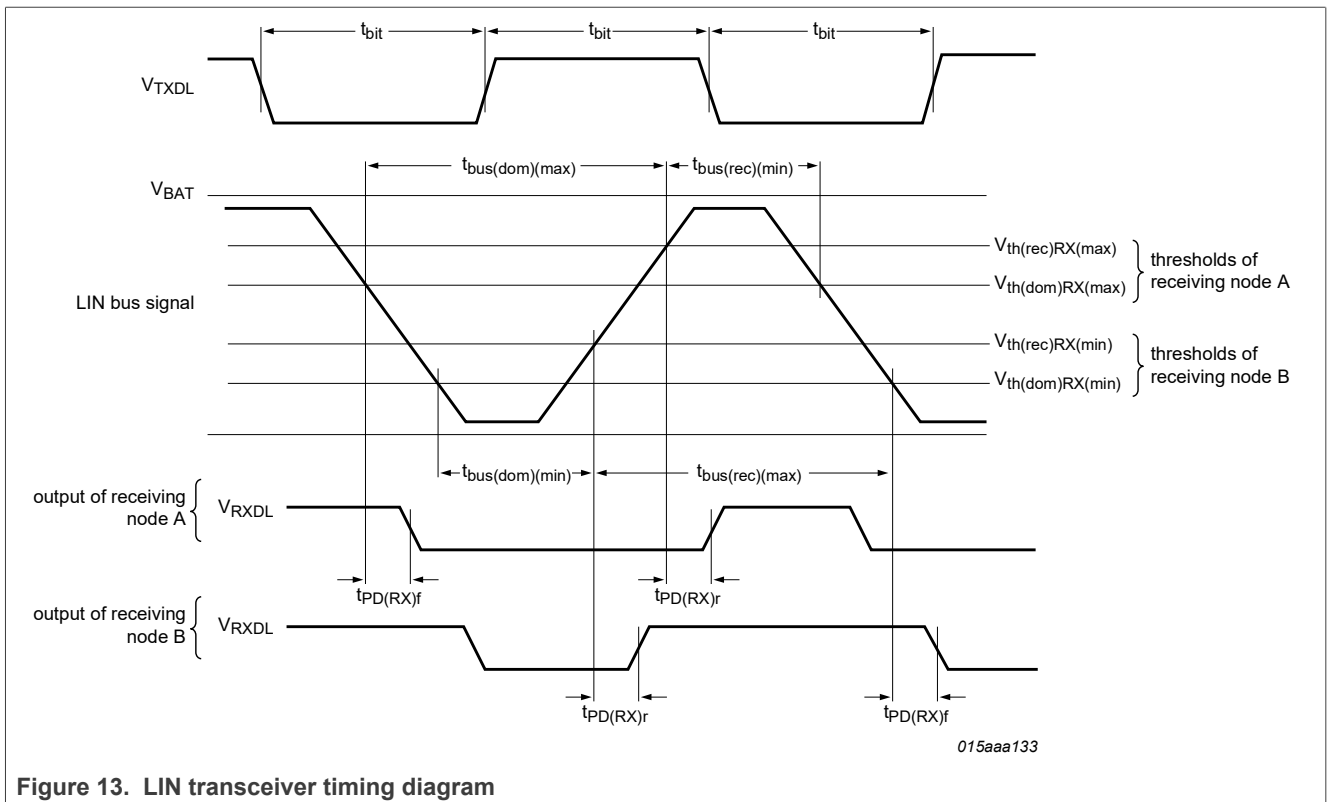
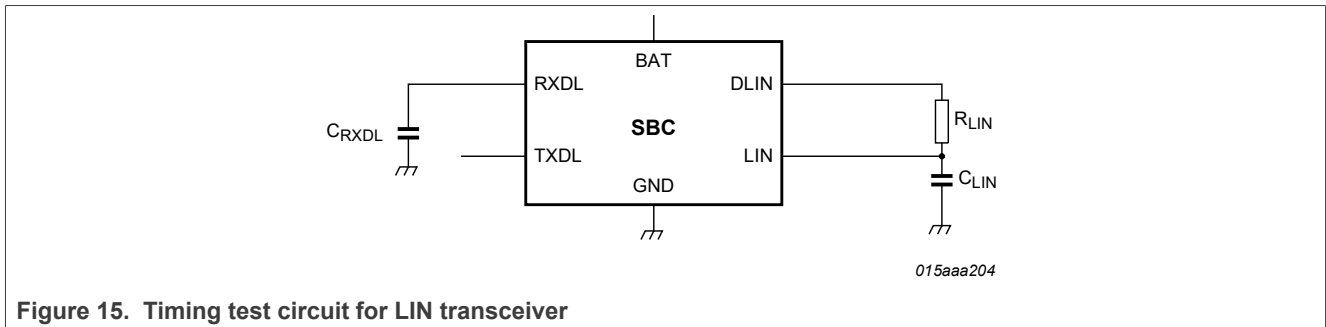

Figure 13. LIN transceiver timing diagram
Figure 15. Timing test circuit for LIN transceiver
LIN transceiver; pins LIN, TXDL, RXDL; see <a href="#">Figure 13</a> and <a href="#">Figure 15</a>
- [2]  $\delta 1, \delta 3 = \frac{t_{bus(rec)(min)}}{2 \times t_{bit}}$ . Variable  $t_{bus(rec)(min)}$  is illustrated in the LIN timing diagram in Figure 13.
- [4]  $\delta 2, \delta 4 = \frac{t_{bus(rec)(max)}}{2 \times t_{bit}}$ . Variable  $t_{bus(rec)(max)}$  is illustrated in the LIN timing diagram in Figure 13.